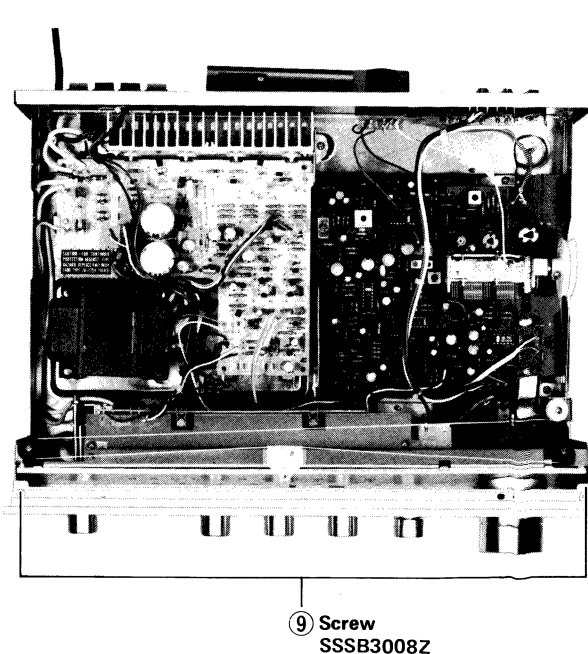

Fig. 6A
4. Remove two screws item no. 9 located on the top of the front panel. See Fig. 6A.